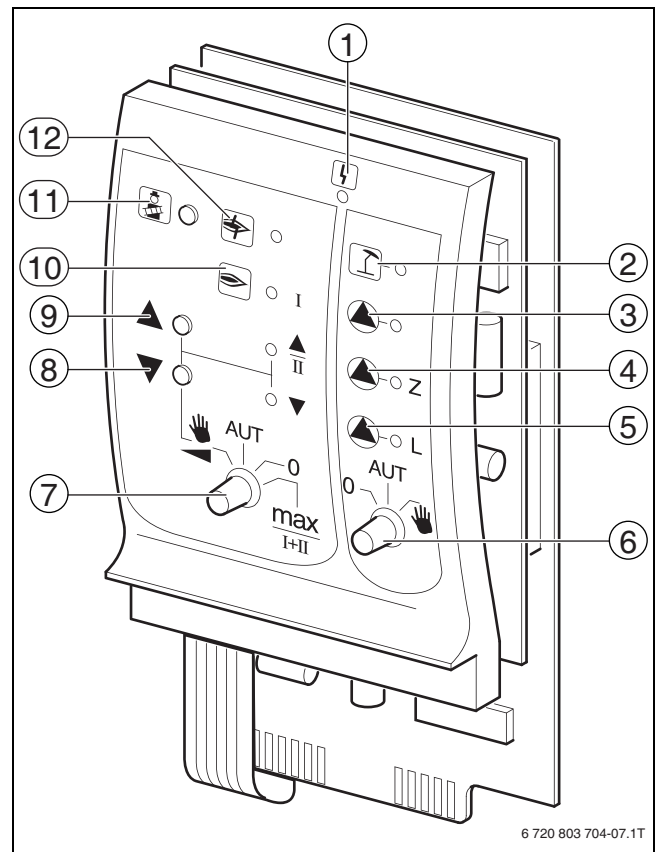

Fig. 11 ZM422
- Press and hold button **Flue gas test** (→ Fig. 11, [11], page 10) for a few seconds.
Positions **0**, **Manual** and **max I + II** of the burner's manual switch are special settings (→ Fig. 11, [7], page 10) reserved for contractors.
Positions **0** and **Manual** are special settings of the manual switch for the heating circuit and DHW (→ Fig. 11, [6], page 10) reserved for contractors.